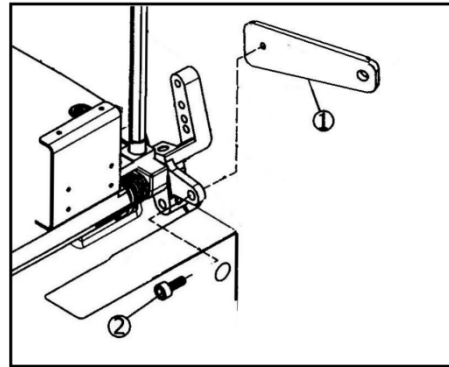

Fig.2
设置压脚连接轴①螺钉②。(Fig.2)
Set the presser foot connecting lever① with the screw②.(Fig.2)